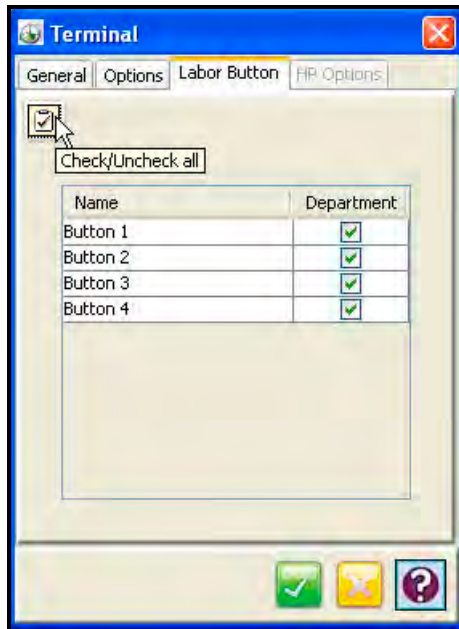

Figure 49: Software Terminal Labor Button Setup
Step 21. Click on the Labor Button tab (see **Figure 49**) to enable departments for Labor transfer with the buttons on a MTX-15 terminal, place a check in the appropriate Department box.